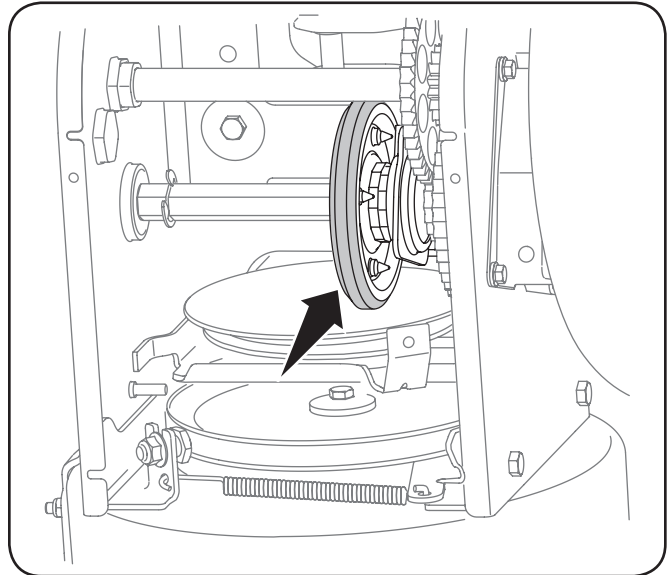

Figure 8-9
4. Examine the friction wheel for signs of wear or cracking. See Fig. 8-9.